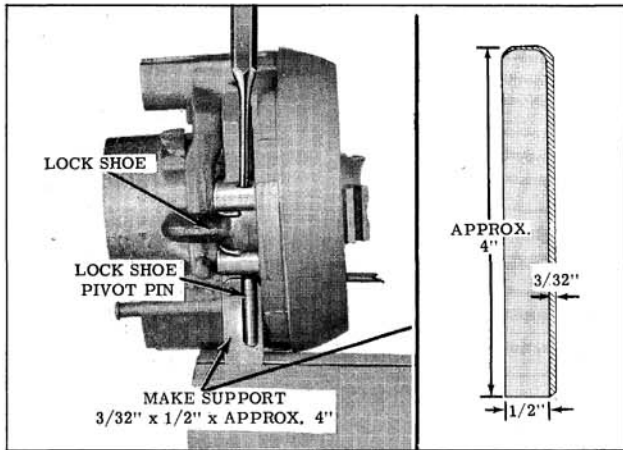

Fig. 8-101 Removing Lock Shoe Pivot Pins
1. Back up the lock shoe pivot pin boss in the actuator housing, with a suitable tool, in-board of the pivot pins. (Fig. 8-101)